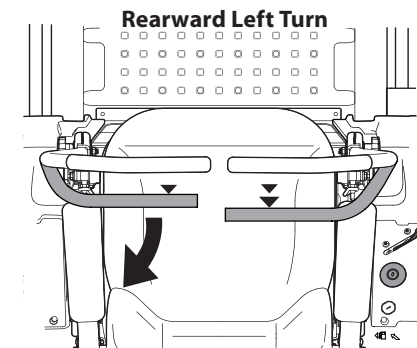

Figure 29
- To turn to the left while traveling in reverse, move the left drive control lever forward of the right lever. See Figure 29.